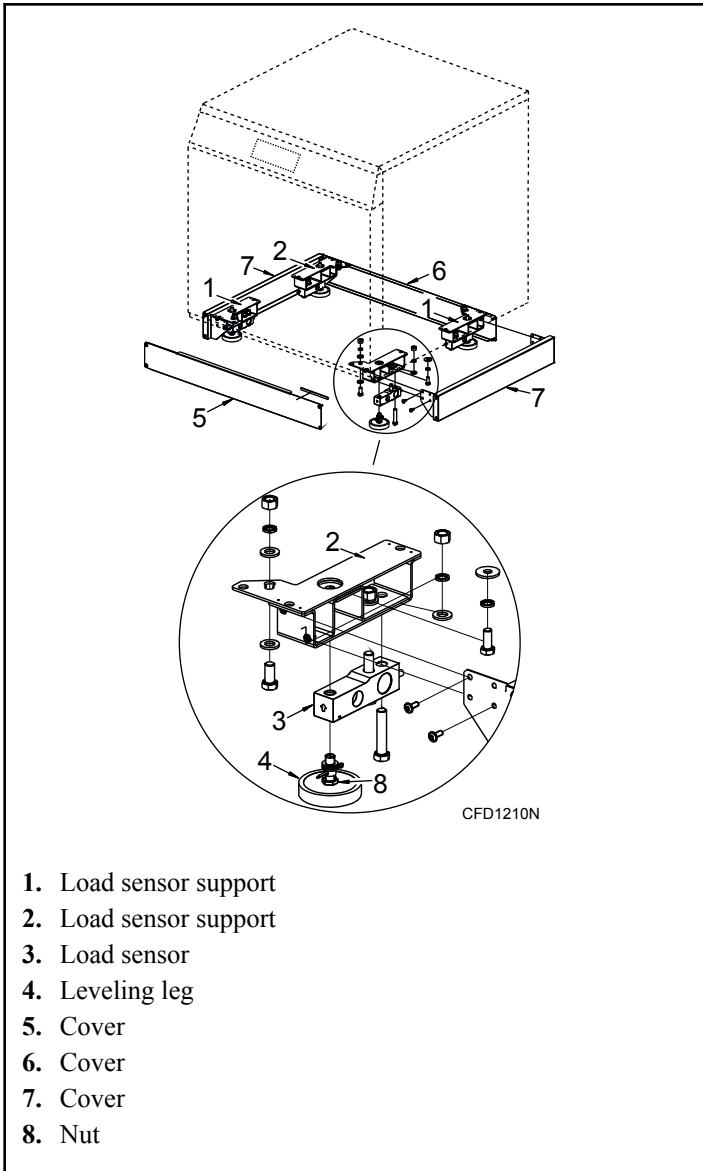

Figure 16
2. Install two left load sensor supports and two right load sensor supports to the machine frame. Refer to *Figure 16*.
11. Install the covers. Refer to *Figure 16*.